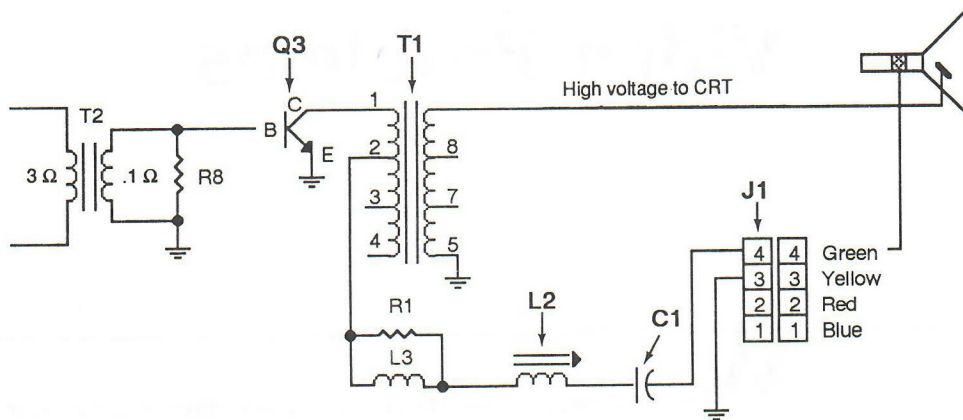
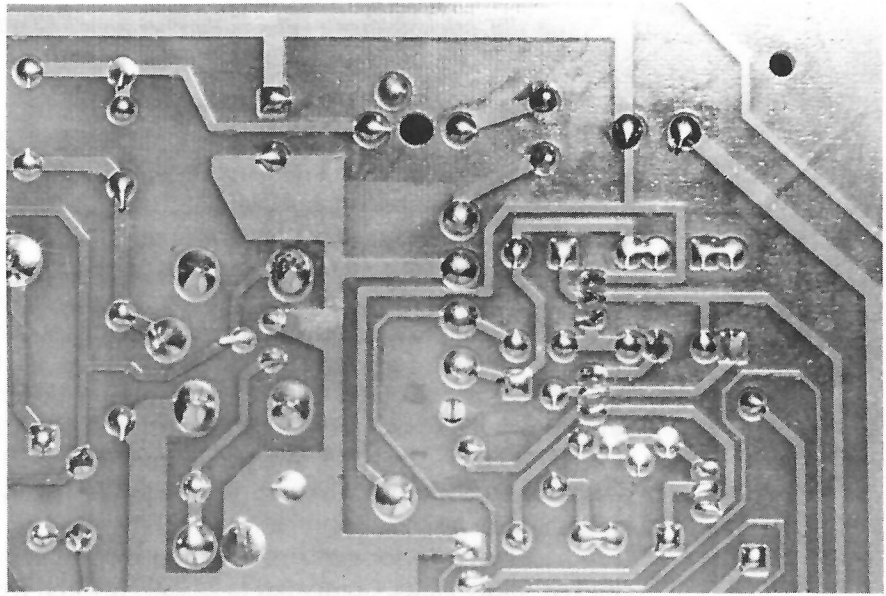

Figure 5-1 The schematic relationship between C1, J1, L2, Q3 (INTERNATIONAL Q2), and T1.
Figure 5-4 A cracked solder joint on the J4 connector.
In most cases the problem is at the top of the analog board in the area of C1, J1, L2, Q3 (INTERNATIONAL Q2,) and T1. The schematic relationship between these parts is shown in Figure 5-1. Note that Q3 is marked Q2 on the International analog board. The other suspects, C1, J1, L2, and T1, the yoke cable color codes, and all of the J-X connector assignments are the same for both boards. For reference, these are listed in Tables 5-1 and 5-2.
Figure 5-4 tells the immediate story. There’s a huge crack on pin-4 of the J-1 connector. Looking at Figure 5-1, we see that pin-4 leads directly to the horizontal yoke. No wonder the display collapsed to a vertical line! The effect of a crack on pin-4 is the same as if you were to break the horizontal sweep circuit at the point between C1 and J1 in Figure 5-1. All we’ve got to do to restore the sweep is disconnect the power cord (from the wall outlet) and resolder the J1 connector. But wait, there’s a catch!
Testing C1 In-Circuit If you look at the schematic relationship shown in Figure 5-1, you'll see that C1 is in series with the horizontal deflection circuit. Series caps are known as DC blocking caps. The operating voltage coming in on pins 3 and 4 of T1 is DC. The sweep signal passing through the circuit is high-frequency AC. C1's function is to keep the operating voltage (DC) from interfering with the sweep signal (AC). Because C1 is passing AC and blocking DC, testing it with a high-impedance (10,000,000 ohms per volt) multimeter is tricky. Complex waveforms are overlapped. Which of the waveforms will the meter see, AC or DC? It all depends on the meter. FET